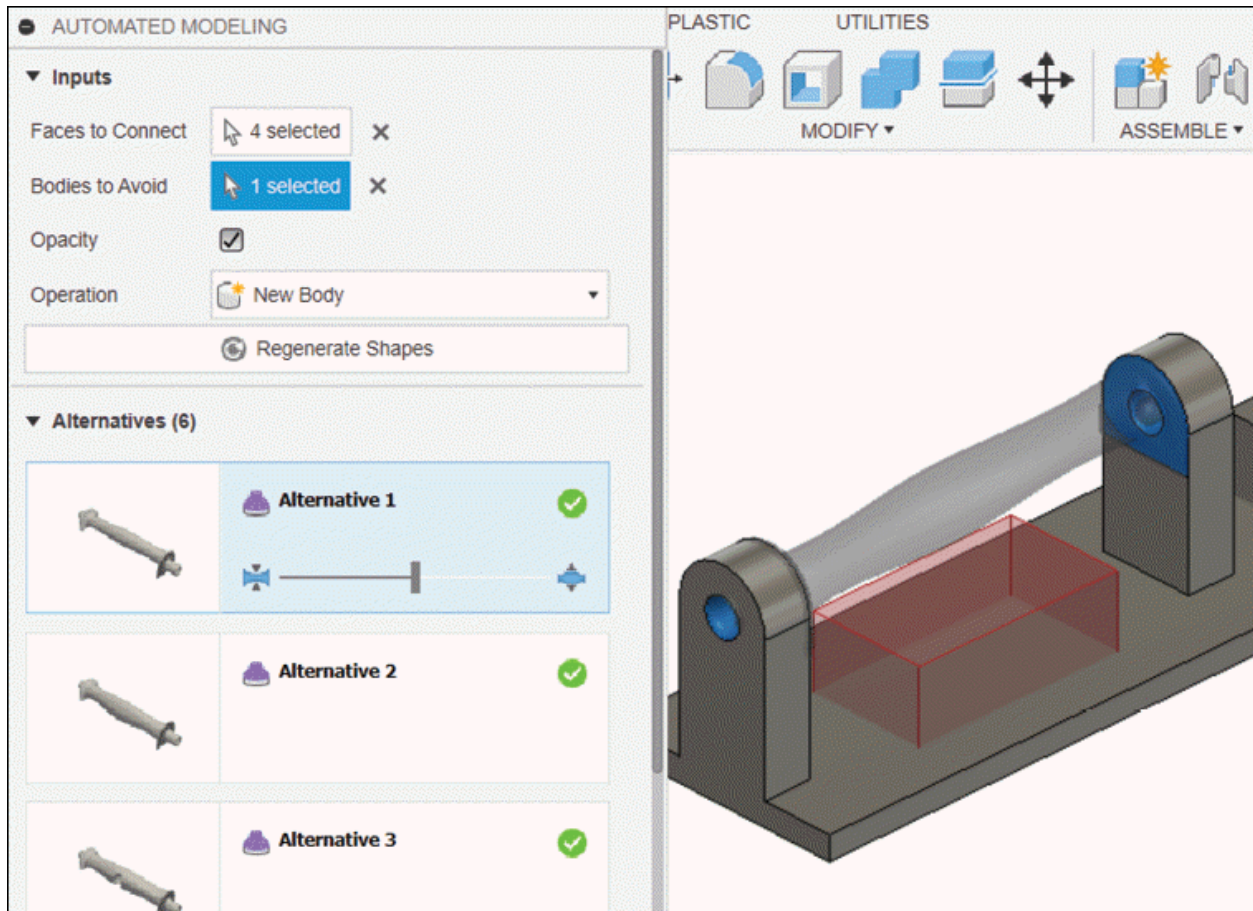

Figure-68. Preview of model alternatives
- Click on the **Generate Shapes** button from the dialog box to generate the shapes. After calculation, preview of alternatives will be displayed; refer to Figure-68.